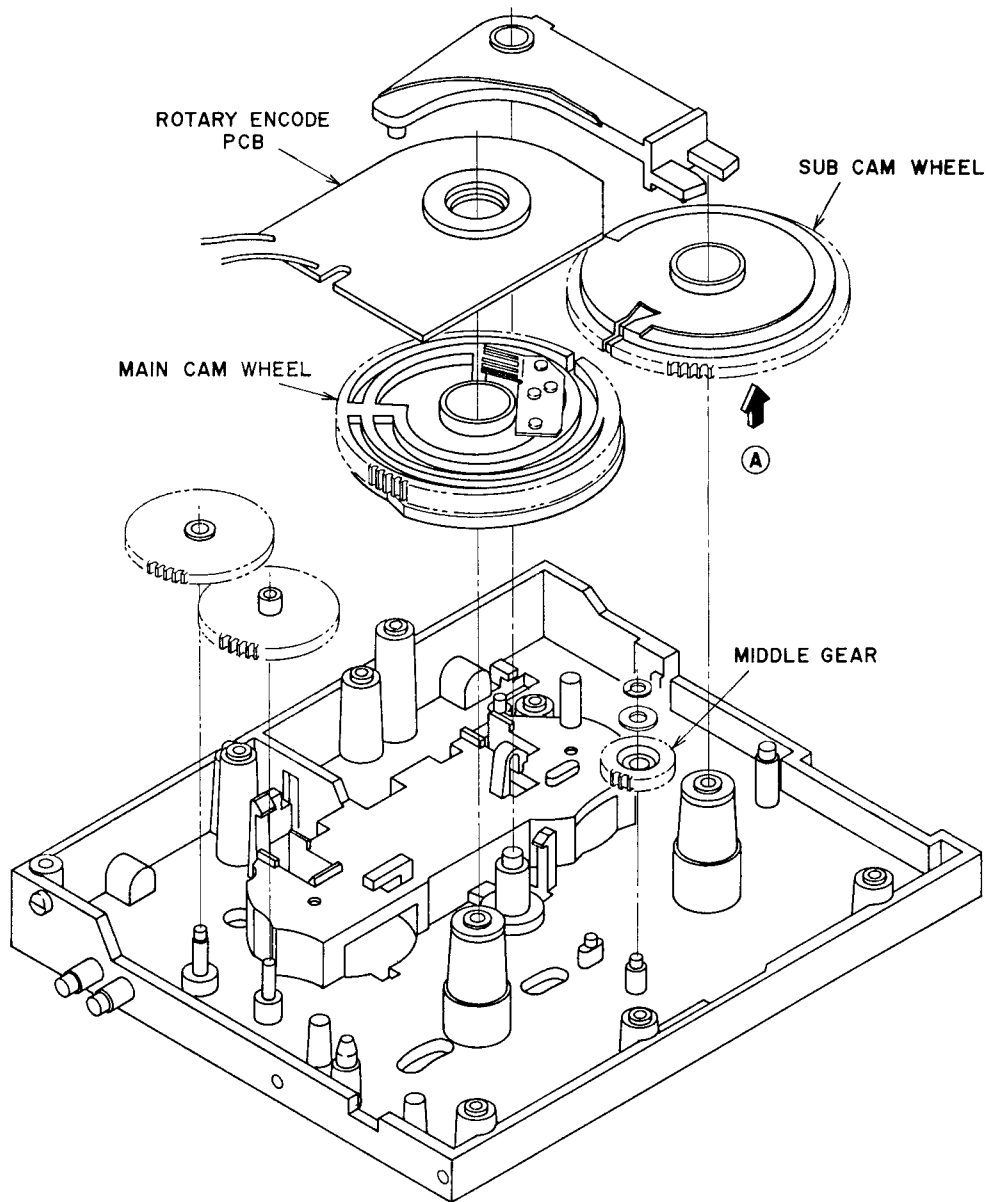
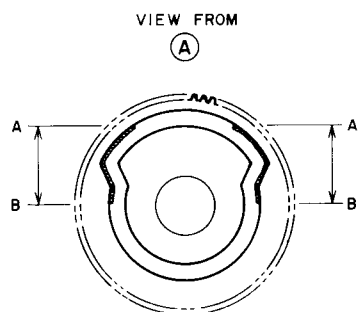
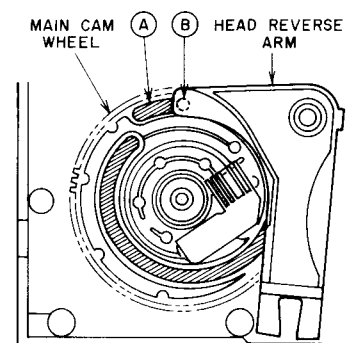

Fig. 6-1
Fig. 6-2
Fig. 6-4
- 1) Lock at SUB CAM WHEEL from direction ① (Fig. 6-1) and apply grease to areas A to B (the side of the groove shaded with oblique lines) as in Fig. 6-2.
- 4) Insert the head Reverse arm pin ② (see Fig. 6-1) into groove A in MAIN CAM WHEEL as in Fig. 6-4.